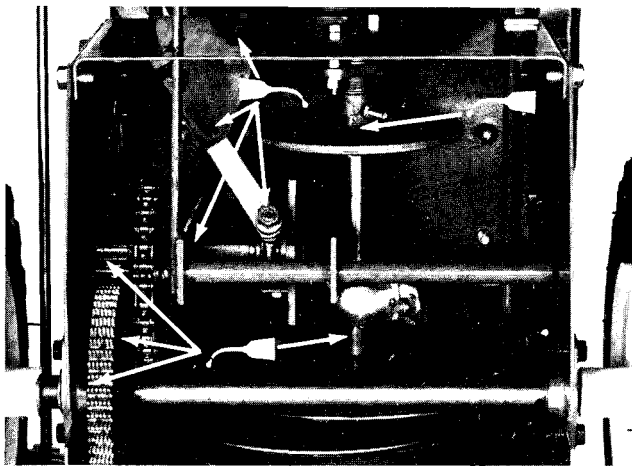

Figure 28
5. Lightly lubricate drive chains, sprocket bushing, nylon ring, hex shaft, and the other pivot points with SAE 10W40 (Fig. 28).